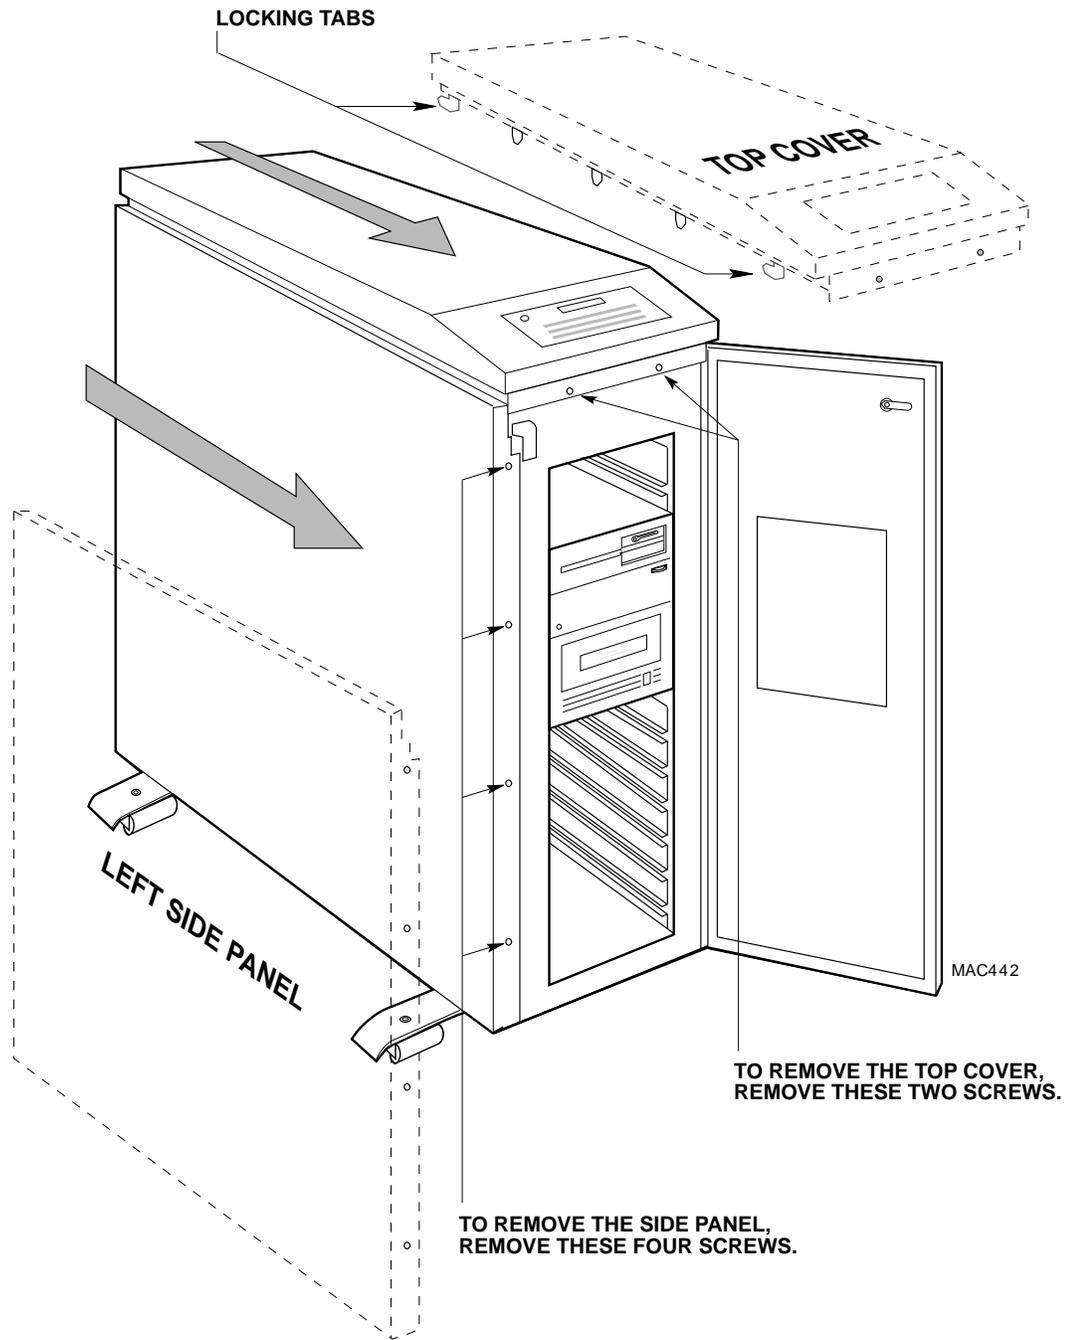
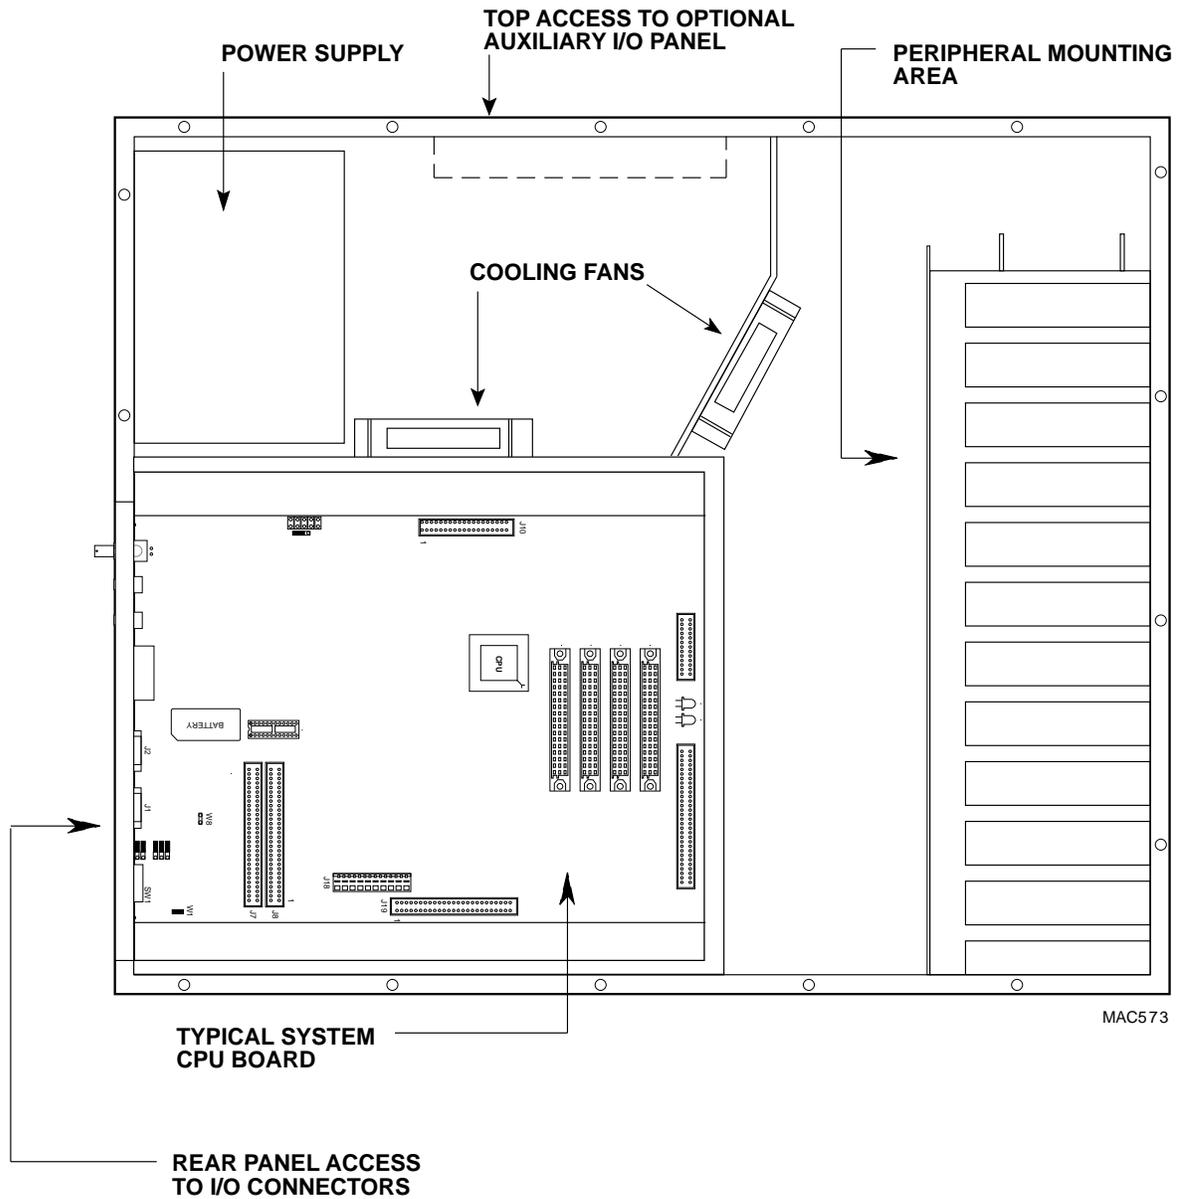

Figure 2-5. SBC Removable Top Cover and Side Panel
Figure 2-6. Inside the SBC Enclosure (Side View)
Figure 2-5 shows important features of the SBC. The computer cabinet has a removable top cover and one removable side panel, allowing access to your computer. The removable top cover allows access to an optional auxiliary I/O panel; the side panel, once removed, allows access to all the components located inside the computer cabinet as shown in Figure 2-6. Cables from terminals and other devices are plugged into connectors located on the computer's rear panel. The door on the front of the computer cabinet makes it easy to install or remove disk storage and backup devices. During normal operation, of course, you shouldn't need to open the computer cabinet at all.
2. Using a Phillips-head screwdriver, remove the two screws that connect the top cover to the chassis as shown in Figure 2-5.
4. The top cover is held in place with four locking tabs, one at each corner. In order to release the locking tabs, the top cover must be slid forward as indicated by the arrow in Figure 2-5. The best way to do this is to use the palm of your hand to firmly strike the rear corners of the top cover. This will cause the top cover to slide forward.
To install optional cards, disk drives, backup devices, or to service the computer, you'll need to remove the left side panel as shown in Figure 2-5.
1. Remove the four screws shown in Figure 2-5 that secure the left side panel to the chassis.
3. Using the palm of your hand, firmly strike the rear edge of the side panel as indicated by the arrow in Figure 2-5.
1. Install the side panel before you install the top cover. The side panel has twelve small tabs and four screws that hold it in place. To remove the panel, you pushed it toward the front of the computer (as shown in Figure 2-5), creating about a 1/2" gap between the front lip of the side panel with the four screw holes and the threaded holes in the cabinet.
The computer has several RF shields that do not appear in Figures 2-5 and 2-6. The purpose of these shields is to prevent radiated electronic noise from leaving the computer cabinet. In order to comply with FCC regulations, these shields should always be in place when the computer is operated. The shields are held in place with Phillips-head screws. There is a large shield covering the computer's motherboard, which you will need to temporarily remove when installing optional expansion cards. Similar shields are used to cover openings in the peripheral mounting area, and to cover openings in the top of the computer cabinet designed for optional equipment. Be sure to reinstall them, when you are done making changes, to insure your computer is in compliance with FCC regulations.